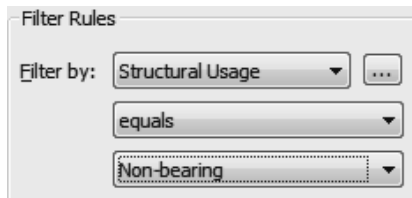

Figure 1–82
8. In the *Filter Rules* area, set *Filter by* to **Structural Usage**, **equals**, and **Non-bearing**, as shown in Figure 1–82.